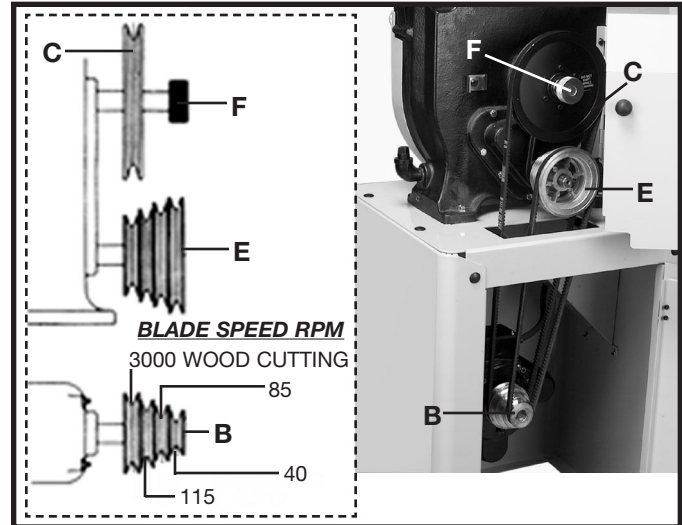

Fig. 59
With the longest belt on the inside groove of the motor pulley (B) Fig. 59 and on the drive pulley (C), and the small belt in one of the remaining three grooves of the motor pulley and the corresponding groove of the gear box pulley (E), speeds of 40, 60, 85, and 3000 SFM are readily available. To obtain speeds of 40, 60, and 85 SFM, push the shifter knob (F) Fig. 59 all the way in, and position the small belt on one of the three outside grooves of the motor pulley (B) and the gear box pulley (E).